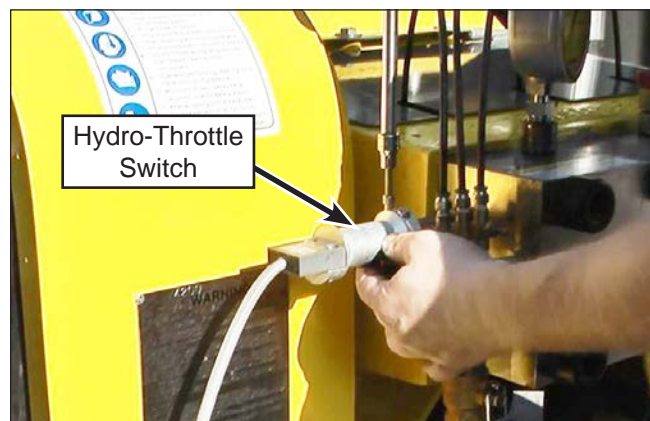

Figure 40: Hydro-Throttle Switch and Housing Installation.
27. Place the hydro-throttle switch and housing (Figure 40) into position and install the two bolts that secure it.